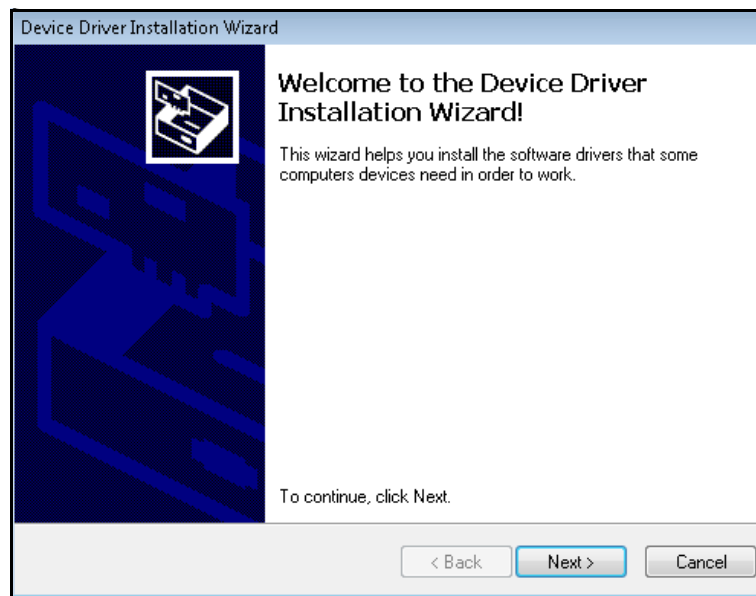

Figure 7: Device Driver Installation Screen
- After extracting FTDI CDM drivers, the dialog box shown in Figure 7 below opens. Click [next] to install software drivers that some computer devices need in order to work.